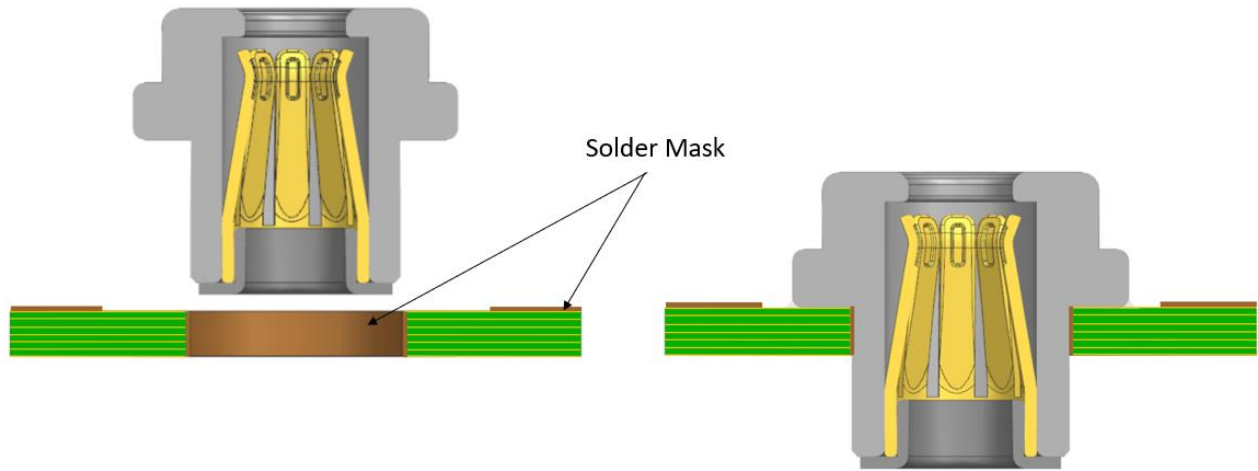

Figure 5.5.1
- a. It is recommended to use solder mask to cover the plated through hole and thermal vias to prevent the flow of the solder paste in the plated through hole and thermal vias region. Reference is show in the figure 5.5.1